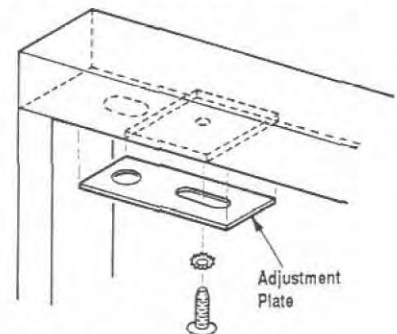

Figure 50
**Step 5.** Attach the two (2) adjustment plates from the hardware kit to the upper trim bar with two (2) self tapping No. 8 flat-top washer head screws and lockwashers from the hardware kit (Figure 50). Center screws over slot in adjustment plate and tighten screws over plates on both sides.